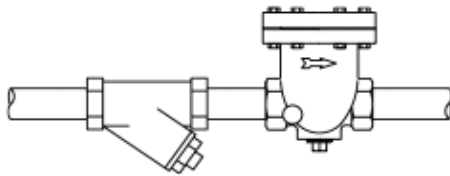

Figure 3. C and CS Series Industrial Traps have either vertical or horizontal outlets. Pipe plug is for draining if there is danger of freeze-up.
8. Install an Emerson strainer, a dirt pocket or both, close to trap inlet. See Figures 3, 4 and 5.